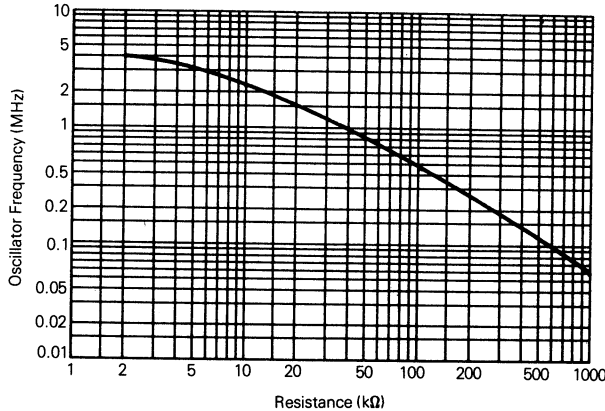

Figure 2-2. Typical Frequency vs Resistance For RC Oscillator Option Only ($V_{DD} = 5.0$ V)
2.1.6.3 RC. If the RC oscillator option is selected, then a resistor is connected to the oscillator pins as shown in Figure 2-1(d). The relationship between R and f_{OSC} is shown in Figure 2-2.